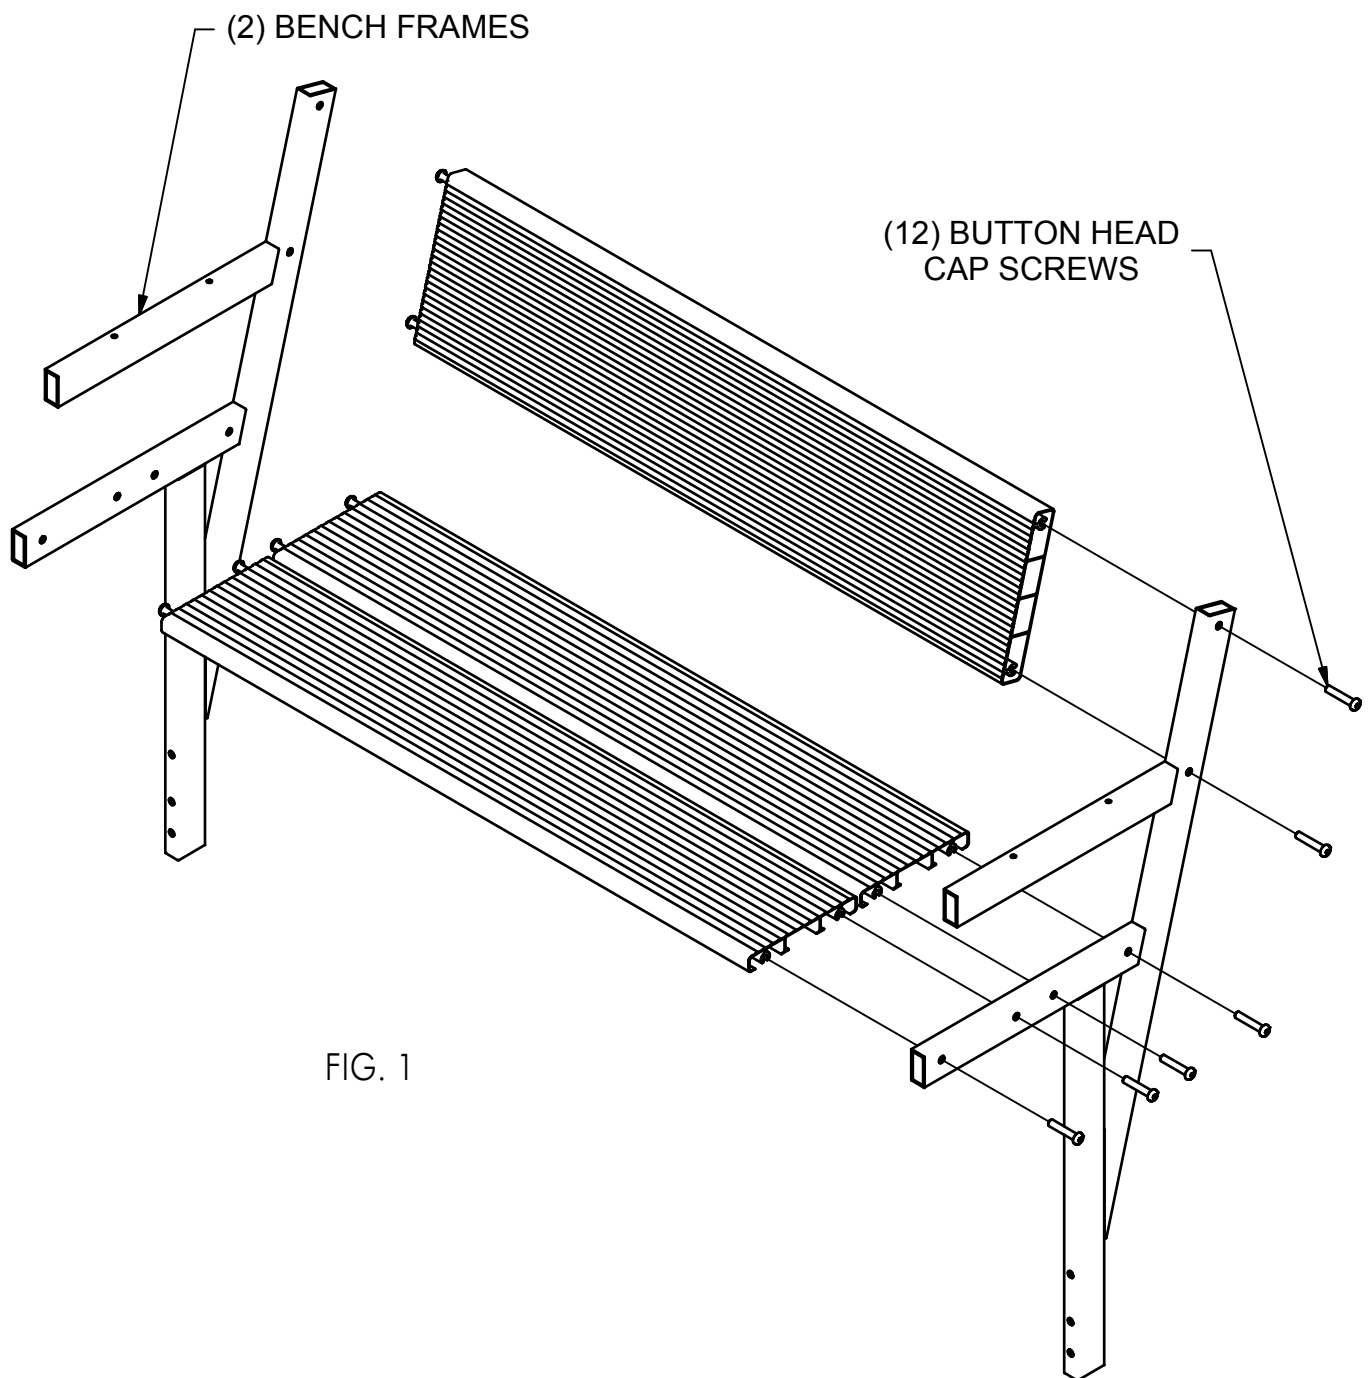

FIG. 1
- FASTEN 10" BACK REST PLANK TO BENCH FRAMES WITH (4) 3/8" X 2" BUTTON HEAD SCREWS AS SHOWN IN FIG. 1.
- FASTEN BOTH 8" SEAT PLANKS TO BENCH FRAMES WITH (8) 3/8" X 2" BUTTON HEAD SCREWS AS SHOWN IN FIG. 1.